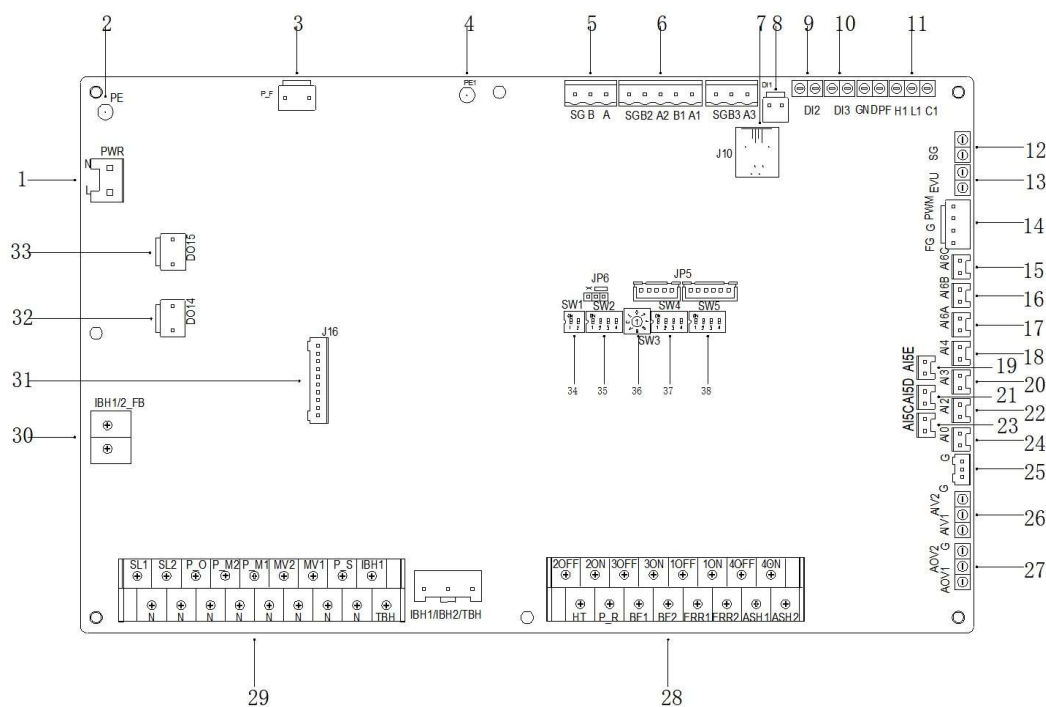

Figure 6-1
6.1. The inner panel is shown in Figure 6-1